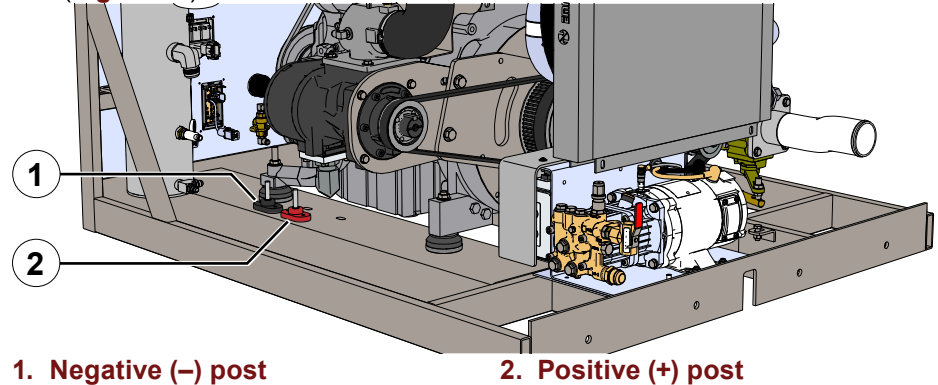

Figure 17
1. Locate the terminal posts on the compressor side of the module (**Figure 17**).